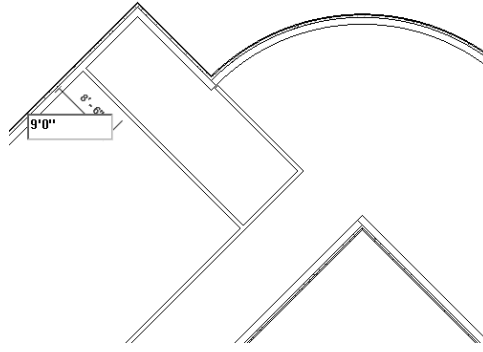

Figure 3-69 Specifying the distance of the fourth interior wall
8. Create the next wall by moving the cursor close to the last specified point. Next, move it downward towards the right. When the temporary dimension appears, enter the value **9'** and press ENTER to start the wall, as shown in Figure 3-69.